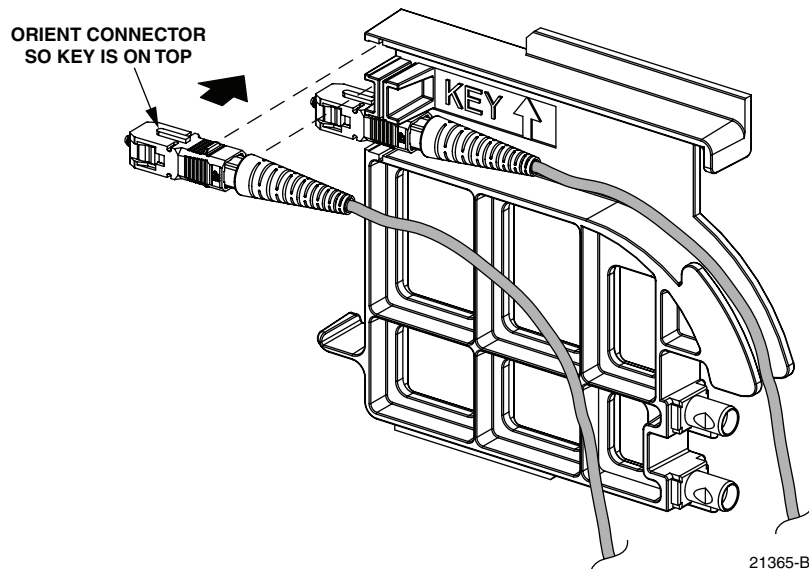

Figure 33. Installing Patch Cord Connector in Dust Cap Assembly
- 16.2.8 Install the patch cord connector in the dust cap assembly as shown in Figure 33.